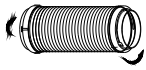
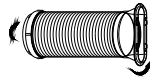

Fig. 16
Fig. 17
1. Install the window Exhaust adaptor B onto the exhaust hose as shown in Fig. 16. or Fig. 17. Refer to the previous pages for window kit installation.